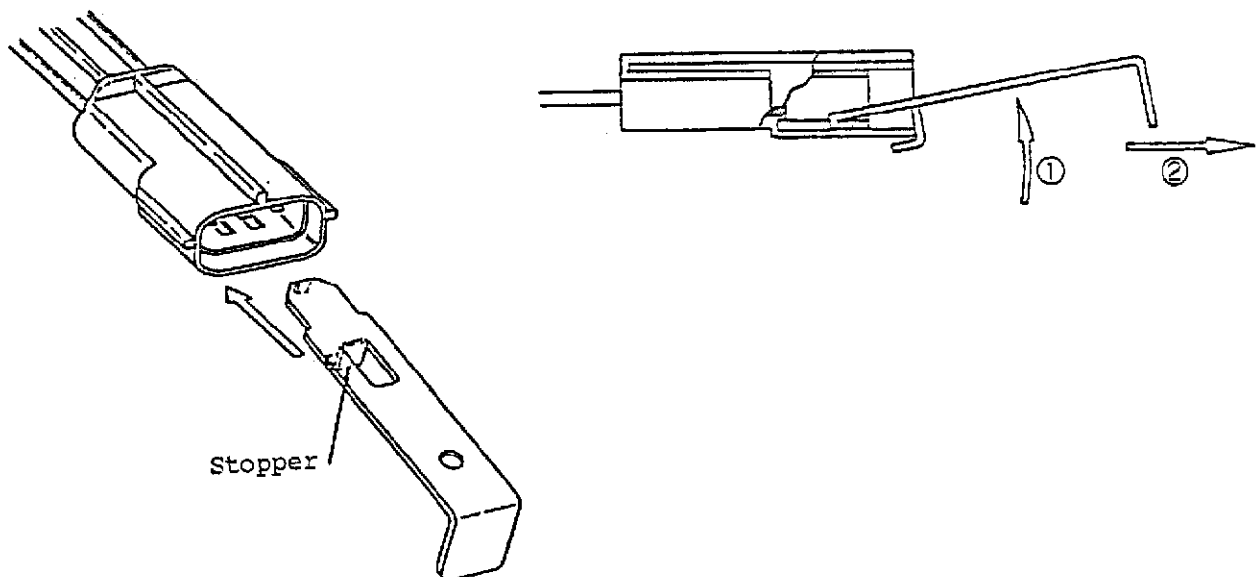

Fig. 8 Removal of Plate by Using Removal Jig.
- a When to remove plate from housing, use removal jig. First, insert the jig in the connector entry along the groove in the direction shown in Fig. 8, until it stops at the end, and remove it by pulling IS-375J, instruction sheet, attached to the product.